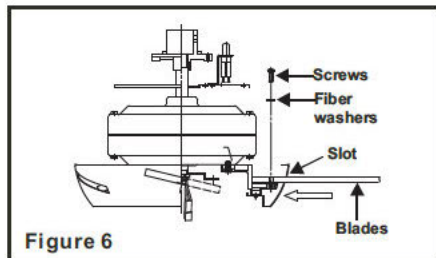

Figure 6
**Step 2.** Insert the blade through the blade slot in the decorative housing. Align the holes in blade and blade arm, making sure the holes are also aligned and secure with fiber washers and screws provided. Repeat process with other blades. (Fig. 6)